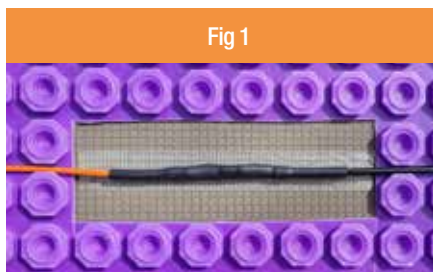
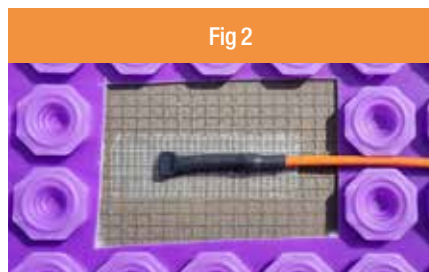

Fig 1
Fig 2
- The decoupling mat must be removed from beneath the coldtail connection and end termination so that they can lay flat to the sub-floor and do not stand proud of the mat. You should remove a 6 stud by 2 stud section from beneath the coldtail connection, and a 3 stud by 2 stud section from beneath the end termination, and then the connections should be held down in the centre of these areas with double-sided tape or glue from a hot glue gun (see fig 1 and fig 2).